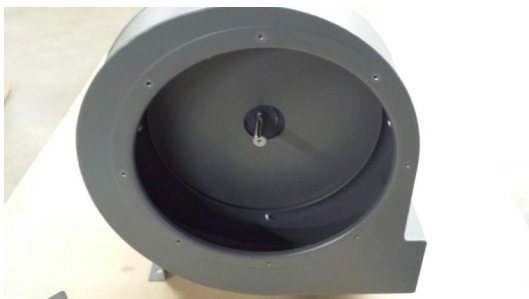

Figure 4
5. Place the motor on the motor mount with the motor shaft sticking through the housing. (see figure 4). Bolt the motor to the motor mount but do not tighten the nuts.